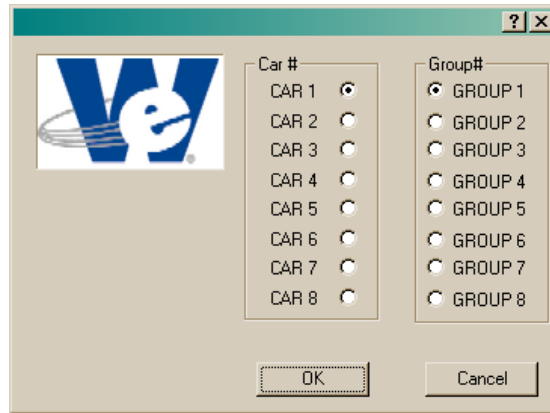

Figure 49
**Terminal Window:** The large, white area located between the Feature and Definition Bars of the FREEDOM Tool Main Window is called the **Terminal Window**. Please refer to Figure 49. The **Terminal Window** is where the communication that occurs between the elevator and the tool is presented to the user. The user can transmit information to the elevator controller by selecting different adjustments/choices located upon the Feature Bar and the Definition Bar. A special feature of the **Terminal Window** is the ability to review the previous communications with the elevator controller during the current login session. On the right hand side of the **Terminal Window** is a scroll bar with two arrows(one for up and one for down). To scroll through the communication, the user simply clicks on these arrows with the PC's pointing device and the communications will scroll on the **Terminal Window**. The **Terminal Window** acts just like the OEM's original service tool where a terminal emulation program and instruction manual was used to adjust/diagnose the connected elevator system. If the user knows the commands for a T-III/T-IV or has a reference manual, the **Terminal Window** can be used to directly enter those commands to the elevator controller.